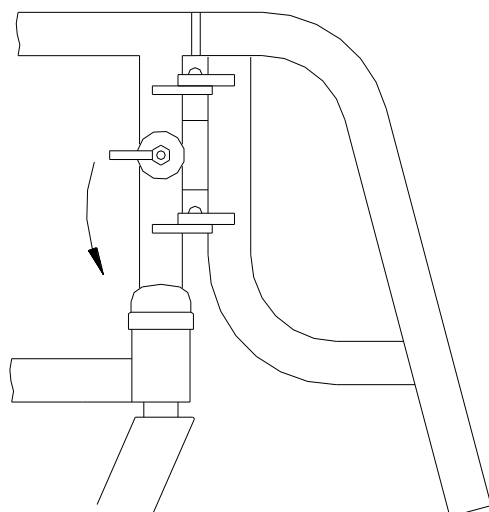

Figure 10
- If you are buying a wheelchair with a detachable aluminium alloy leg support, turn the leg support to lock the handle when dismantling, the leg support can pivot outwards and can be lifted up after pivoting through an angle; when inserting, align the upper and lower locating holes of the leg support with the locating pins on the frame and hook it in, then gently pivot it inwards until it automatically snaps back into place and secures. (See Figure 10)